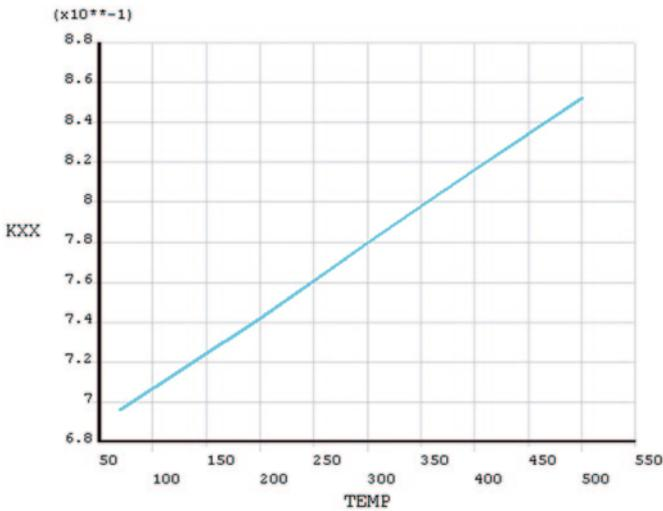

Fig. 9.5 Variation of conductivity with temperature as plotted in ANSYS
- View the variation of thermal conductivity as a function of temperature by clicking on the *Graph* button. *KXX* versus *TEMP* appears in the *Graphics Window* (Fig. 9.5).